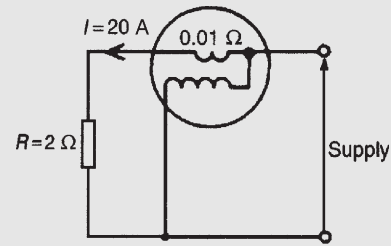

Figure 10.13
connected as shown in Fig. 10.13. Determine the wattmeter reading.
- (a) Power dissipated in the load,  $P = I^2 R = (20)^2 (2) = 800 \text{ W}$
- (b) With the wattmeter connected in the circuit the total resistance  $R_T$  is  $2 + 0.01 = 2.01 \Omega$ . The wattmeter reading is thus  $I^2 R_T = (20)^2 (2.01) = 804 \text{ W}$
2. (a) A current of 15 A flows through a load having a resistance of  $4 \Omega$ . Determine the power dissipated in the load. (b) A wattmeter, whose current coil has a resistance of  $0.02 \Omega$ , is connected (as shown in Fig. 10.13) to measure the power in the load. Determine the wattmeter reading assuming the current in the load is still 15 A.